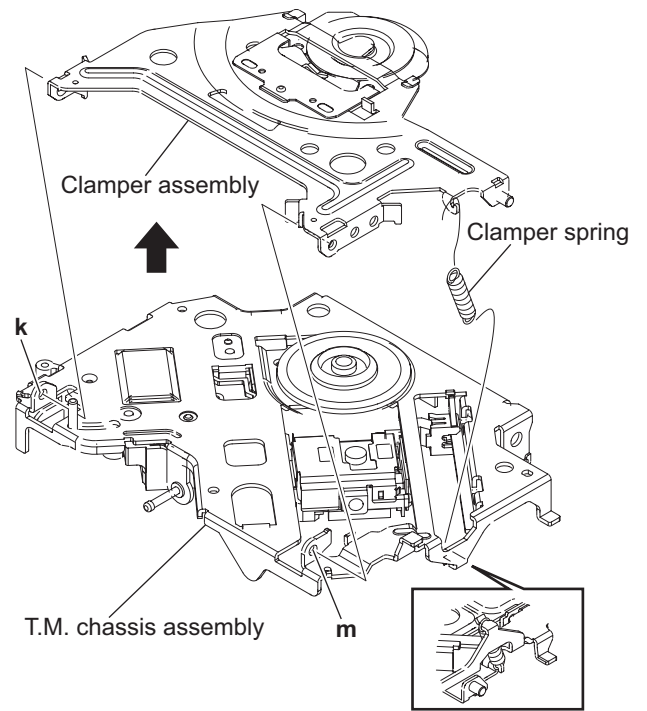

Fig.17
3.2.9 Removing the clamber assembly (See Fig.17)